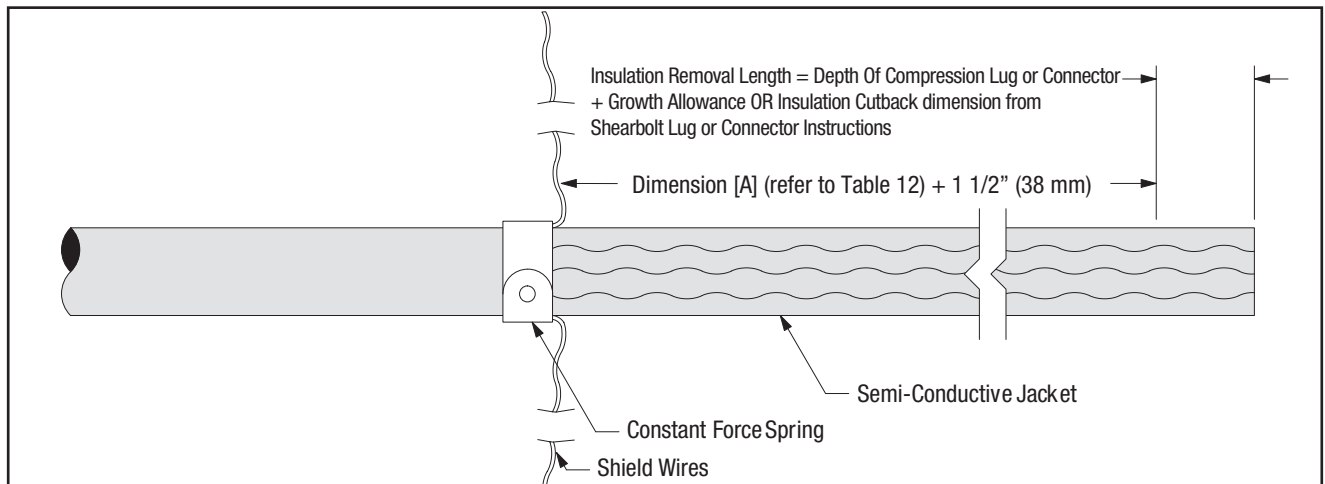

Figure 16
12.2 Prepare cable using dimensions shown in Figures 16, 17 and 18. **BE SURE TO ALLOW FOR DEPTH OF TERMINAL LUG OR CONNECTOR.**
- 12.4 Install constant force spring as shown in Figure 16. Pull shield wires through semi-conductive jacket to leading edge of constant force spring (Figure 16).